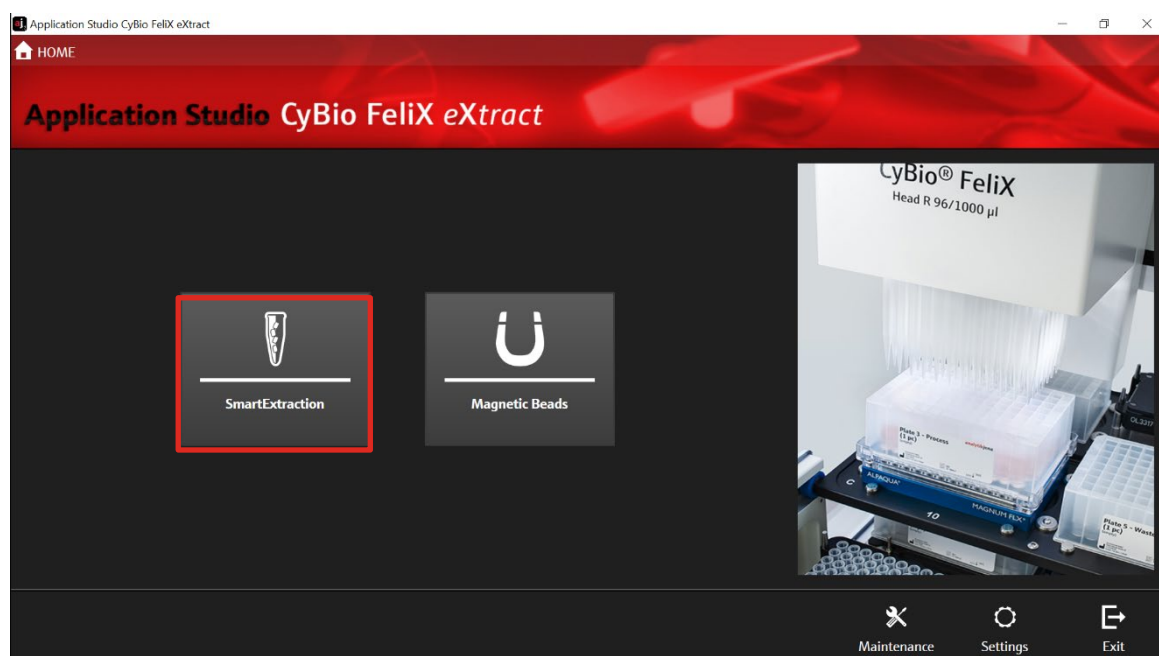

Figure 4: Homescreen AppStudio FeliX eXtract. Selection of extraction technology: SmartExtraction.
5. Choose “SmartExtraction” and the kit “smart Blood DNA Midi Direct prep (a96) – FX, prefilled” (→ see **Figure 4** and **Figure 5**).